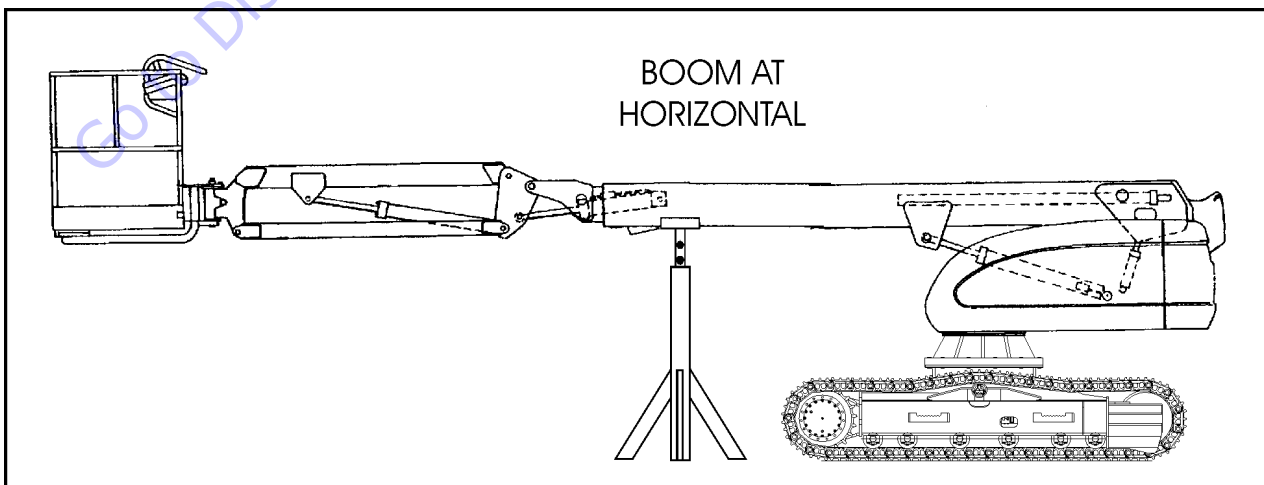

Figure 8-14. Boom Positioning and Support, Cylinder Repair
2. Shut down engine. Support main boom basket end with a prop. (See Figure 8-14., Boom Positioning and Support, Cylinder Repair).
1. Place the machine on a flat and level surface. Start the engine and place the main boom in the horizontal position. Shut down engine and prop the boom. (See Figure 8-14., Boom Positioning and Support, Cylinder Repair).